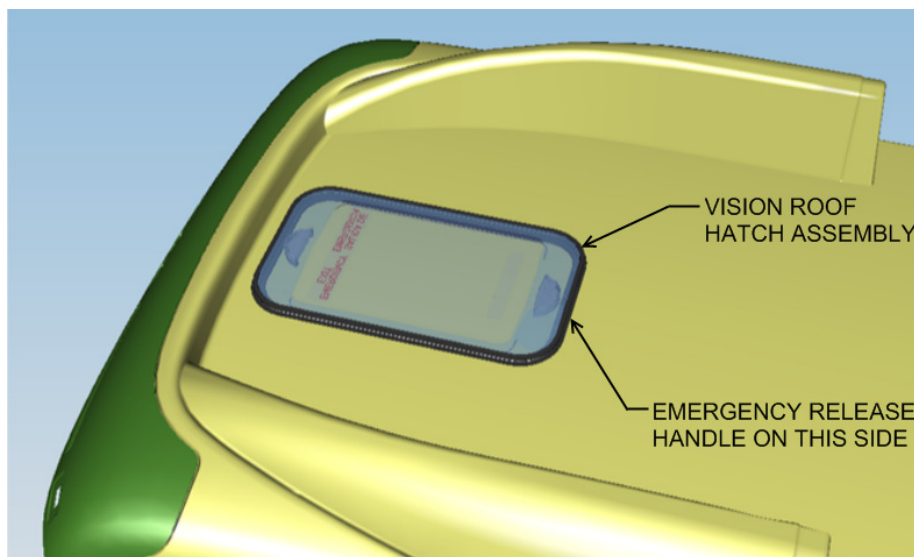
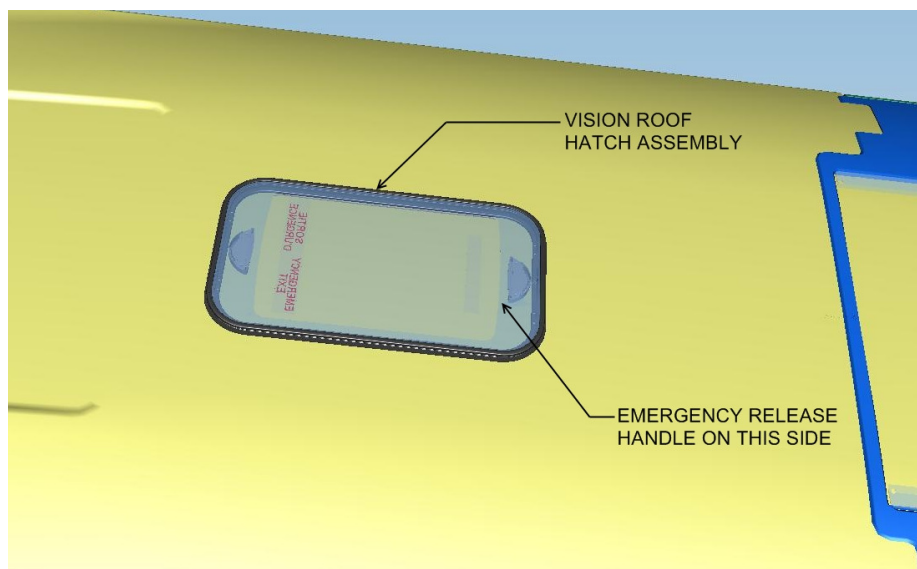

Figure 1: FRONT ROOF HATCH LOCATION REFERENCE
Figure 2: REAR ROOF HATCH LOCATION REFERENCE
2. Locate the roof hatches on the front and rear of the coach as shown in Figure 1 and Figure 2 respectively.